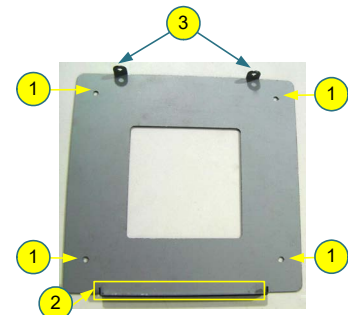

Figure 5-17: Control Module's Mounting Bracket
- Step 1.** Set up the skids with spacing that matches the spacing measurements for the holes in the **Control Module's** mounting bracket (1). Refer to Figure 5-17 above.
- Step 2.** Position the **Control Module's** mounting bracket so that its four holes (1) fit over corresponding holes on the skids.
- Step 6.** To mount the **Control Module**, place it onto its mounting bracket so that its groove at the bottom (2) rests on the lip at the bottom of its mounting bracket (2).
- Step 7.** Press the **Control Module** back onto the mounting bracket such that the top of the **Control Module** fits under the mounting bracket's tabs (3) at the top. The screw holes (3) on the top of the **Control Module** should line up with the mounting brackets tabs (3).